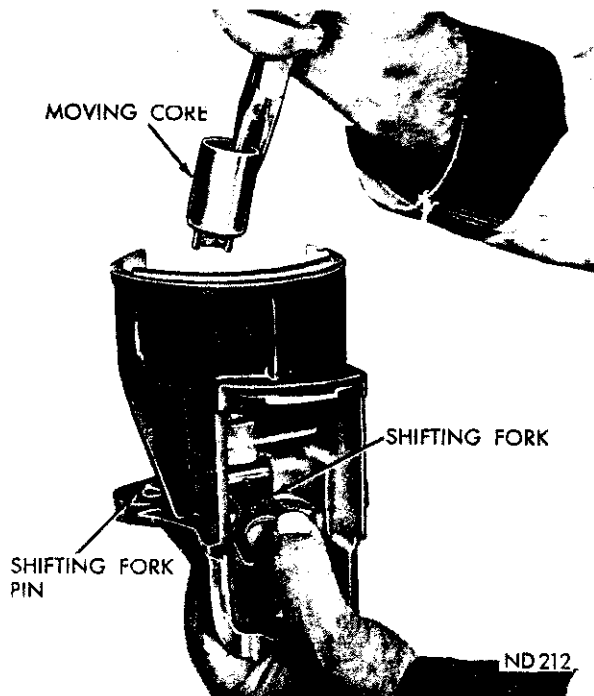

Fig. 10—Removing or Installing Moving Core
(18) Remove driven gear and friction washer.
(19) Pull shifting fork forward and remove solenoid moving core (Fig. 10).
(1) Position shifter fork in drive housing and install shifting fork retainer pin. One tip of pin should be straight, other tip should be bent at a 15 degree angle away from the housing. The fork and retainer pin should operate freely after bending tip of pin.
(2) Install solenoid moving core and engage shifting fork (Fig. 10).
(3) Enter pinion shaft into drive housing and install friction washer and drive gear.